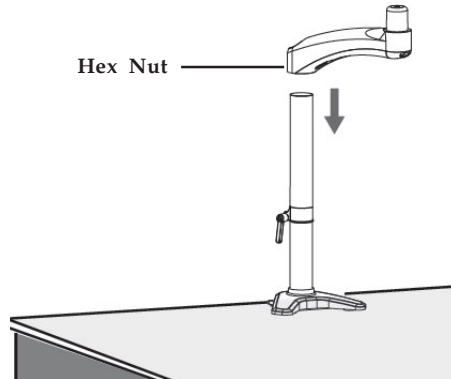

Figure 11
2. Slide the Extension Arm over the Steel Tube until it rests on the Position Ring, then tighten the Hex Nut finger tight using a 3mm Allen Key, see Figure 11.